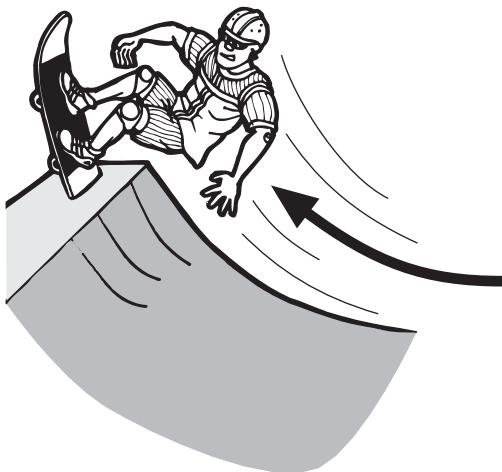

Figure Q4
4. A skateboarder and ramp are shown in Figure Q4.